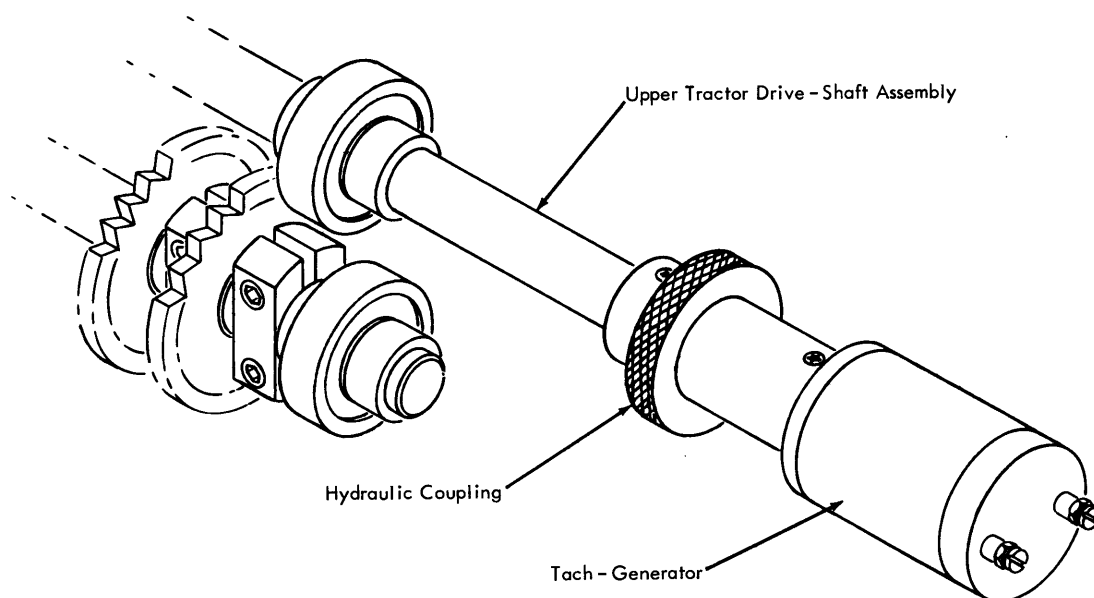

Figure 57. Tach-Generator and Coupling
The tach-generator (Figure 57) converts the mechanical motion of the carriage into an electrical output for scoping. This is an extremely accurate method of adjusting and analyzing the hydraulic unit. *If adjusting by the methods of the previous section does not correct faulty carriage operation, use the tach-generator.*
2. Remove the paper-advance knob from the upper tractor drive shaft. Install the tach-generator (part 450976) and coupling (part 451290) on the shaft as shown in Figure 57 and tighten the setscrew.